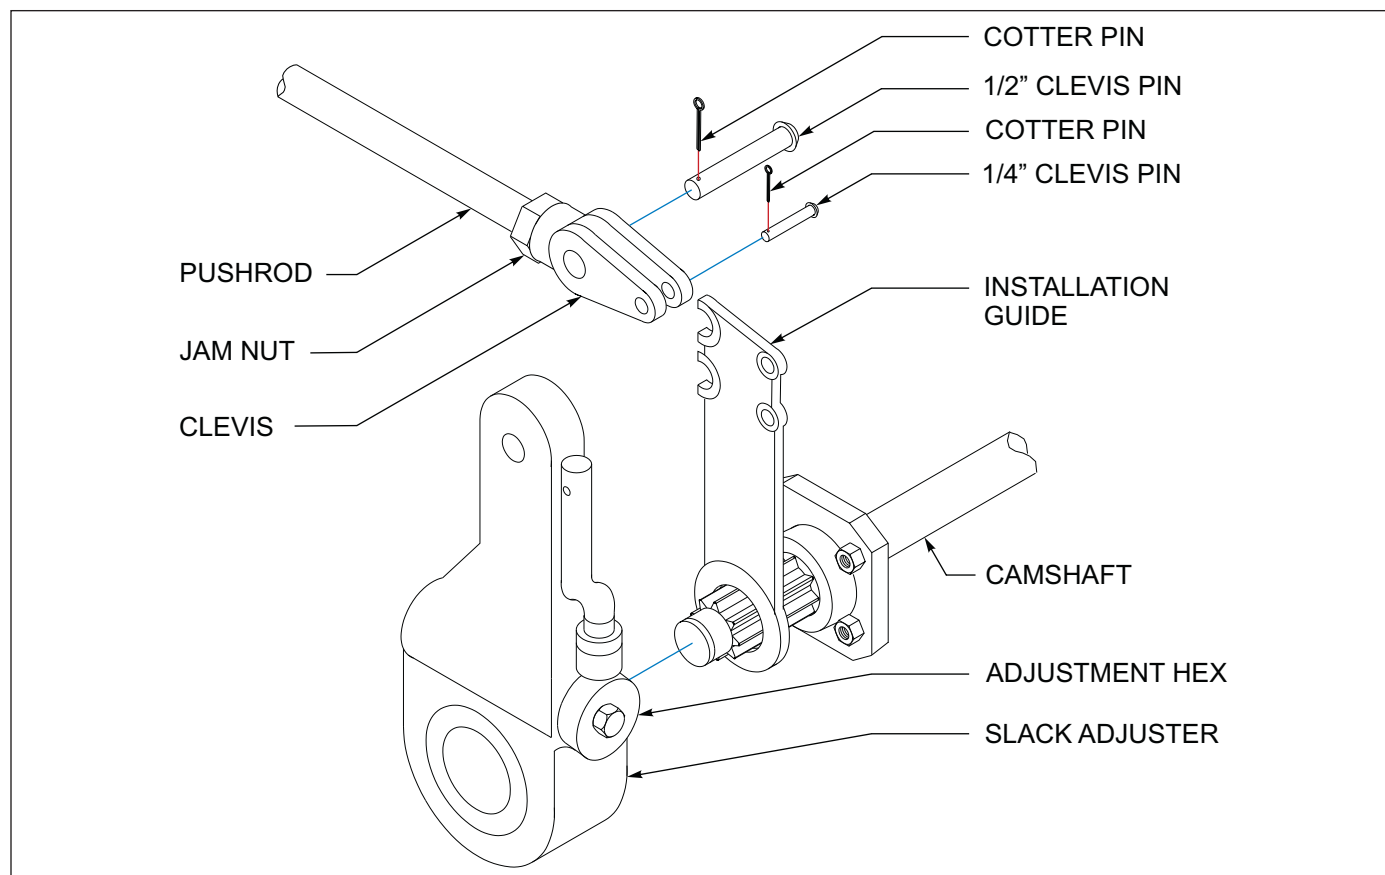

Figure 4-12: Slack Adjuster
4. Disconnect the slack adjuster from the connecting rod by removing the clevis pin (*See Figure 4-12.*)
4. Remount the brake chamber on the axle brackets and reconnect the air service hoses and the slack adjuster connecting rod (*See Figure 4-12.*)
2. Check that the push rod is fully retracted, apply air to release spring brake (See Figure 4-12.)